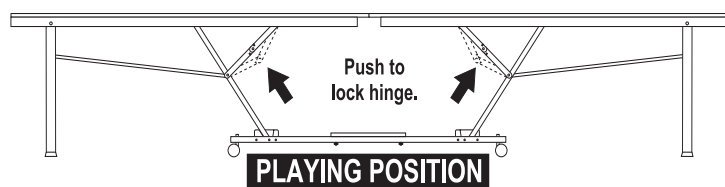

Figure 4
3. Lock all four center hinges. See Figure 4.